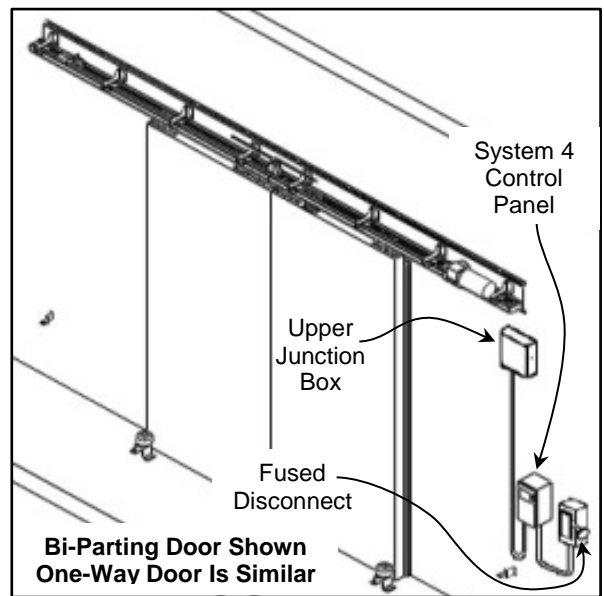

Figure 17
3. Remove the cover from the upper junction box located above the door opening. (See Figure 17)